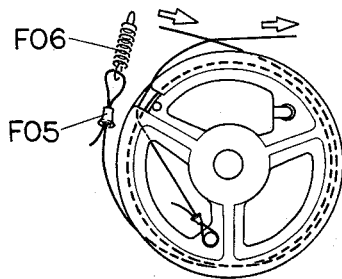

Fig. 5.1.7
- (3) Referring to Fig. 5.1.7, put the dial thread end (free end) on F05 (thread guide) and fix it with F06 (Pulley Spring).